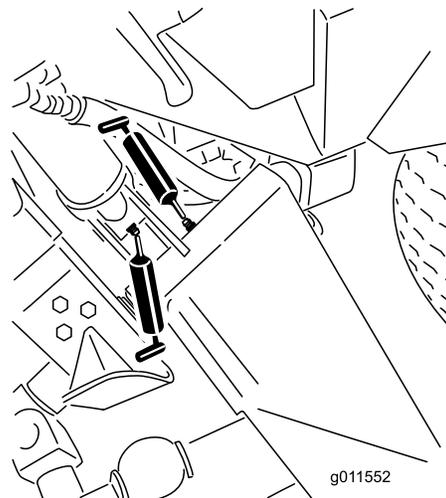
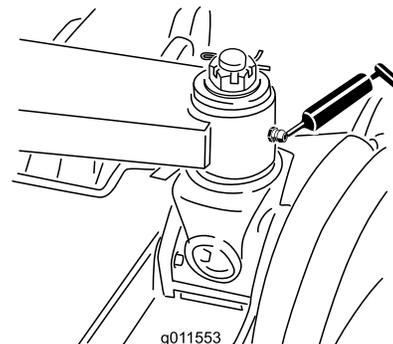

Figure 72
Figure 73
- 6 main lift-arm bushings (Figure 72 and Figure 73)